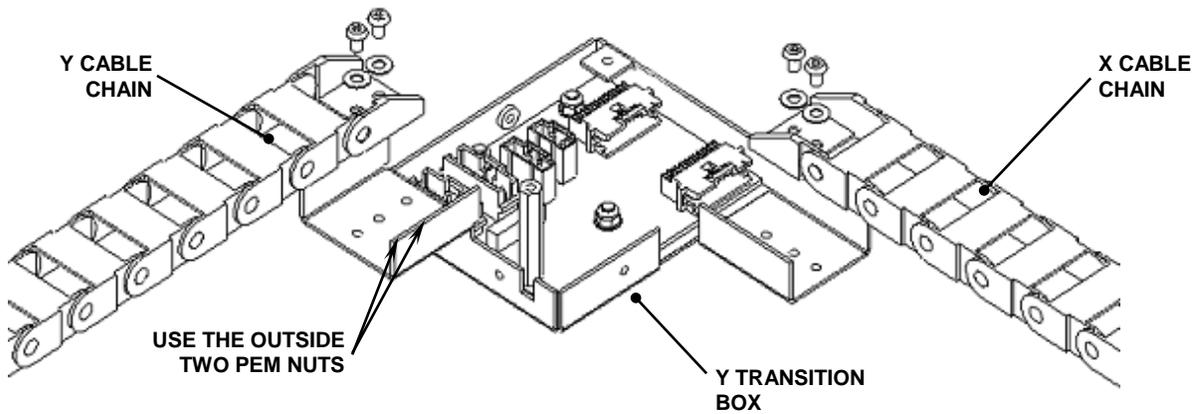

Figure 8-10: Removing the Y Cable Chain
6. Remove the Y Cable Chain (Figure 8-10).